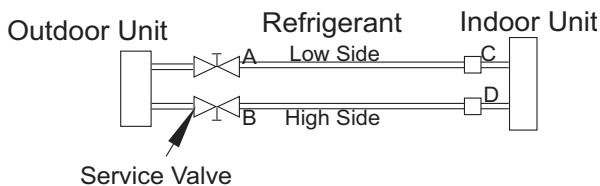

Fig. 5 — Service Valve
1. Completely tighten the flare nuts (A, B, C, D, E). Fully open all circuits service valves. Connect the manifold gage charge hose to the charge port of the low side Master service valve to evacuate all circuits at the same time (see Fig. 5).